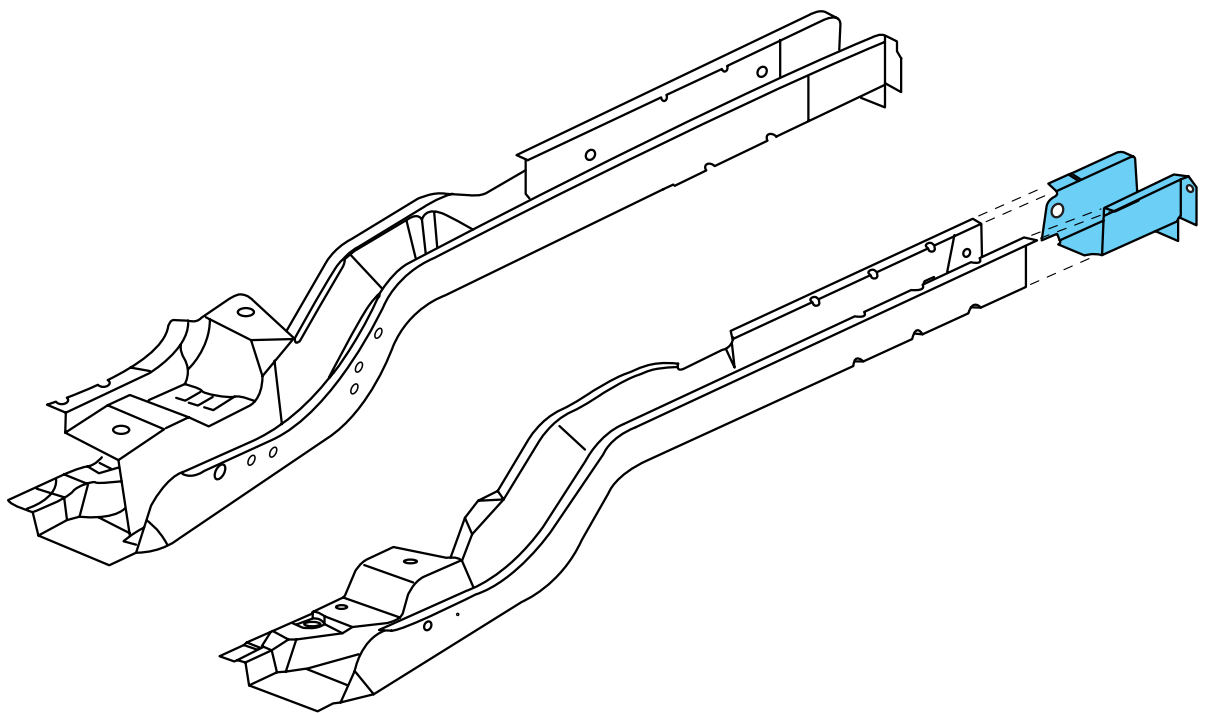

Fig. 1-20 — Rear Rail Panels
The rear rail is available as a complete assembly. It consists of an outer panel, two inner reinforcements, a rail extension, and all necessary component mounting brackets (Fig. 1-20). The outer panel and rear mounting brackets are also available separately to facilitate sectioning. Additionally, there is a crossbar that connects the two rear rails for added strength and rigidity.
1. Using the original part as a guide, mark a line on the service rail 35 mm (1-5/16 in) forward of the cut made to the original part; this should be approximately 535 mm (21 in) without the extension attached to the rail. This will provide an overlap for welding the service section (see Fig. 1-20).